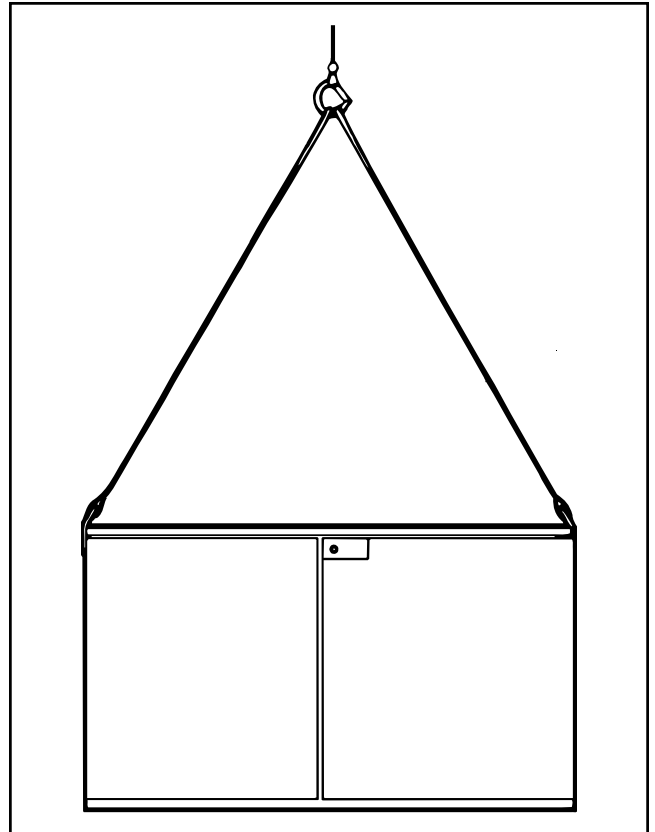

Figure 1. Hoisting arrangements.
- STEP 3.** Arrange the hoist slings to distribute the lifting forces equally between the lifting tabs. See Figure 1.